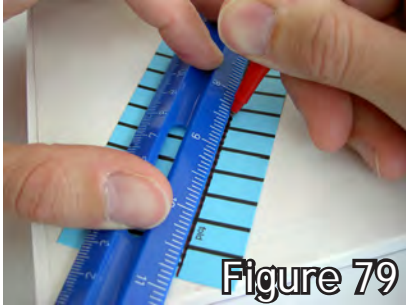

Figure 79
1. On a strip of brackets, trace along the dotted lines with a ball point pen to score the paper. (fig. 79)